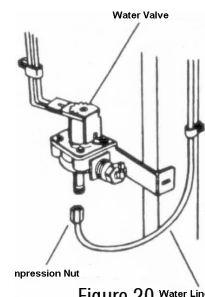

Figure 20
13. Attach Fill tubing to inlet fill tube, this is a friction fit and does not require adhesive or a clamp since it is not under pressure. If you existing inlet fill tube does not make a friction fit with the fill tubing you will need to use the inlet tube provided with this kit. Route the Fill tubing for the icemaker down the back of the refrigerator (behind the condenser coils, if present). There are mounting clips provided. (see Figure 20 & 21)